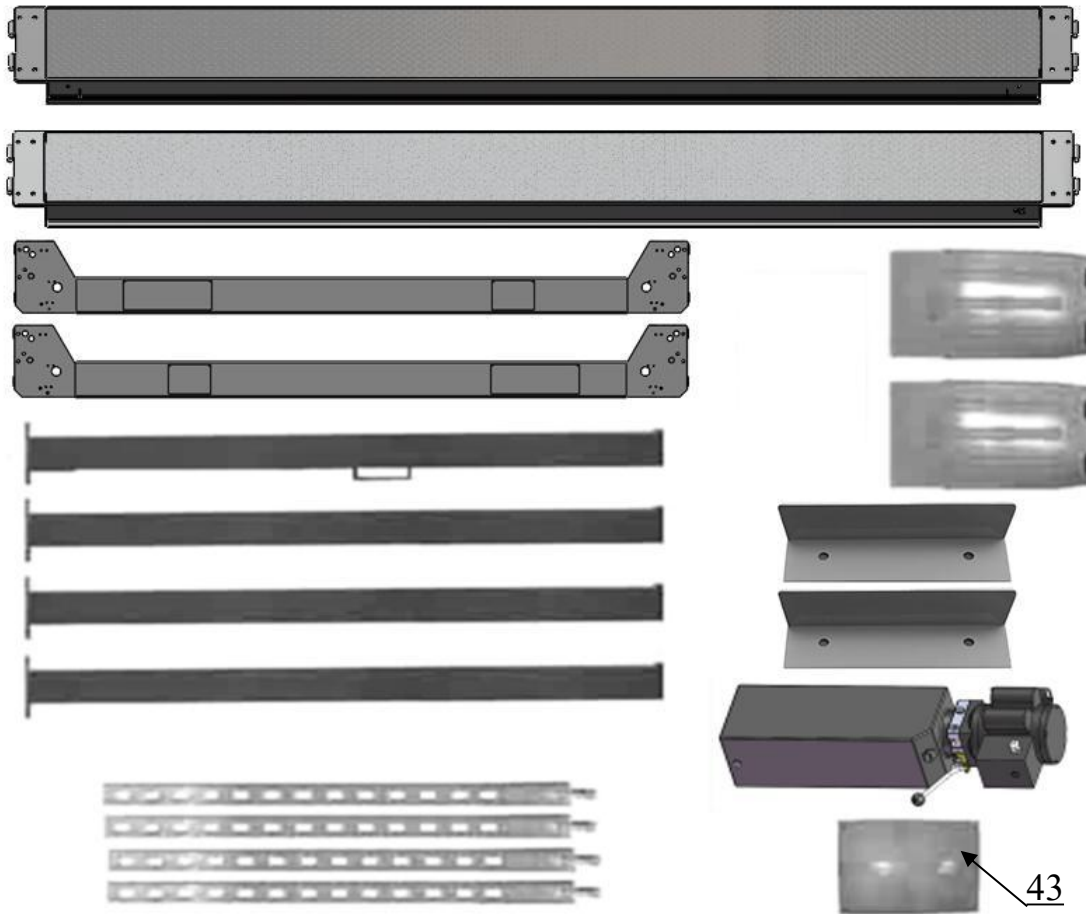

Fig.8
6. Move aside the parts and check the parts according to the shipment parts list (**See Fig. 8**).